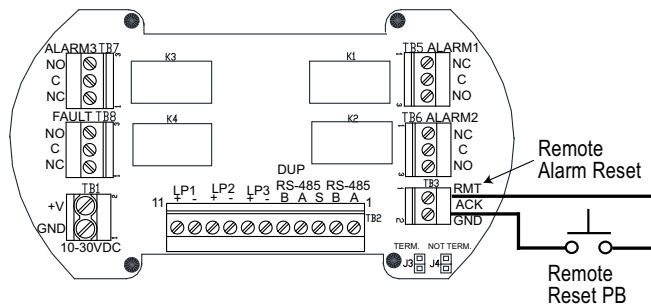

Figure 4-20: Relays/Remote Alarm Reset Connections – Terminal/Relay/MODBUS PCB
Alarm Connection Example – Terminal/Relay/MODBUS PCB and Figure 4-20: Relays/Remote Alarm Reset Connections – Terminal/Relay/MODBUS PCB for details).
6. If desired, connect a remote switch to TB3 on the terminal/relay/MODBUS RS-485 PCB. This feature allows you to shut off and reset a sounding remote alarm (refer to Figure 4-20: Relays/Remote Alarm Reset Connections – Terminal/Relay/MODBUS PCB for details).